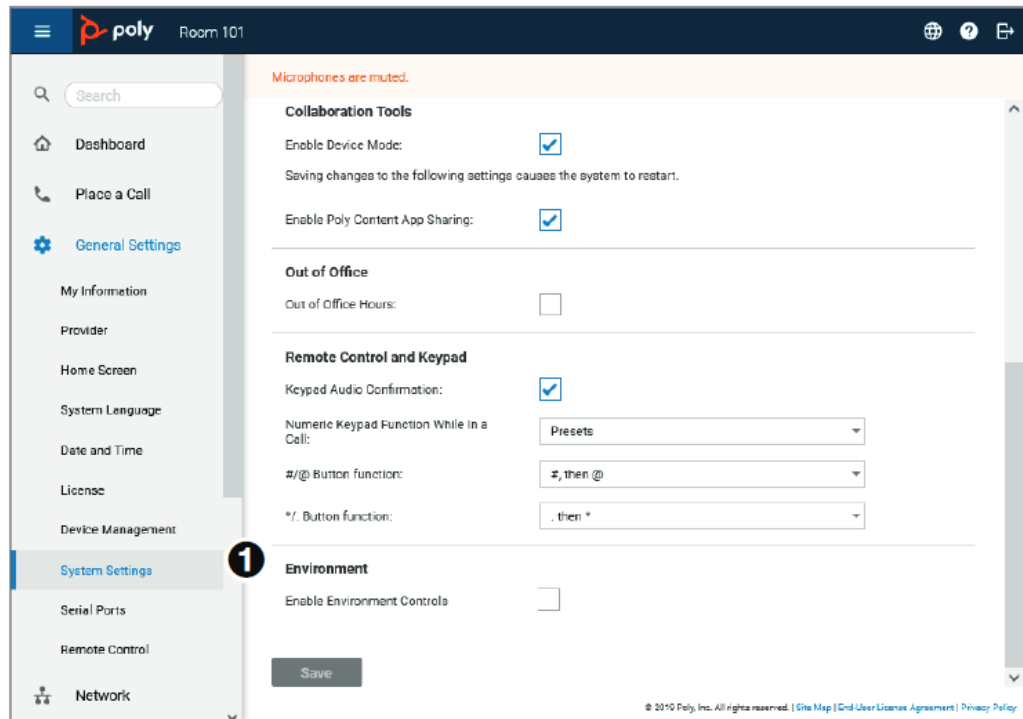

Figure 25. Poly System Web Interface
2. Under Environment (see figure 25, ❶), de-select the **Enable Environment Controls** checkbox.